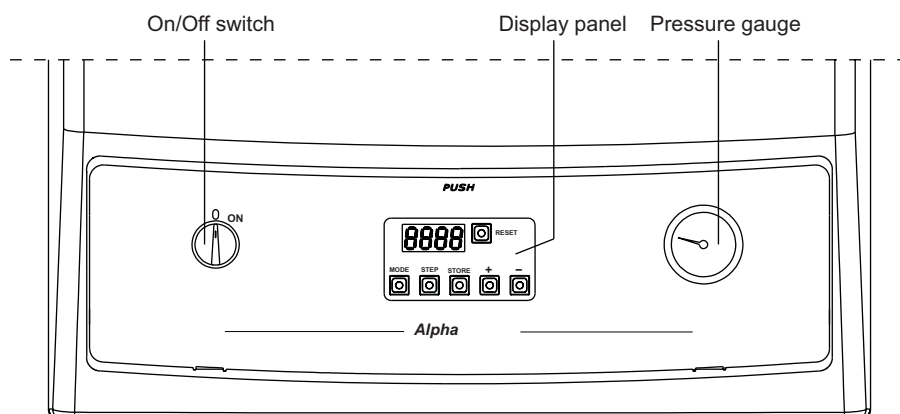

Fig. 22
5.3 BOILER CONTROLS - Fig. 22
5.4 INITIAL LIGHTING - Refer to Fig. 22
The boiler display panel (see Fig. 22), is composed of a 4-character display and 6 keys. By using these keys it is possible to adjust the boiler as it would be by using traditional selector switches and knobs.